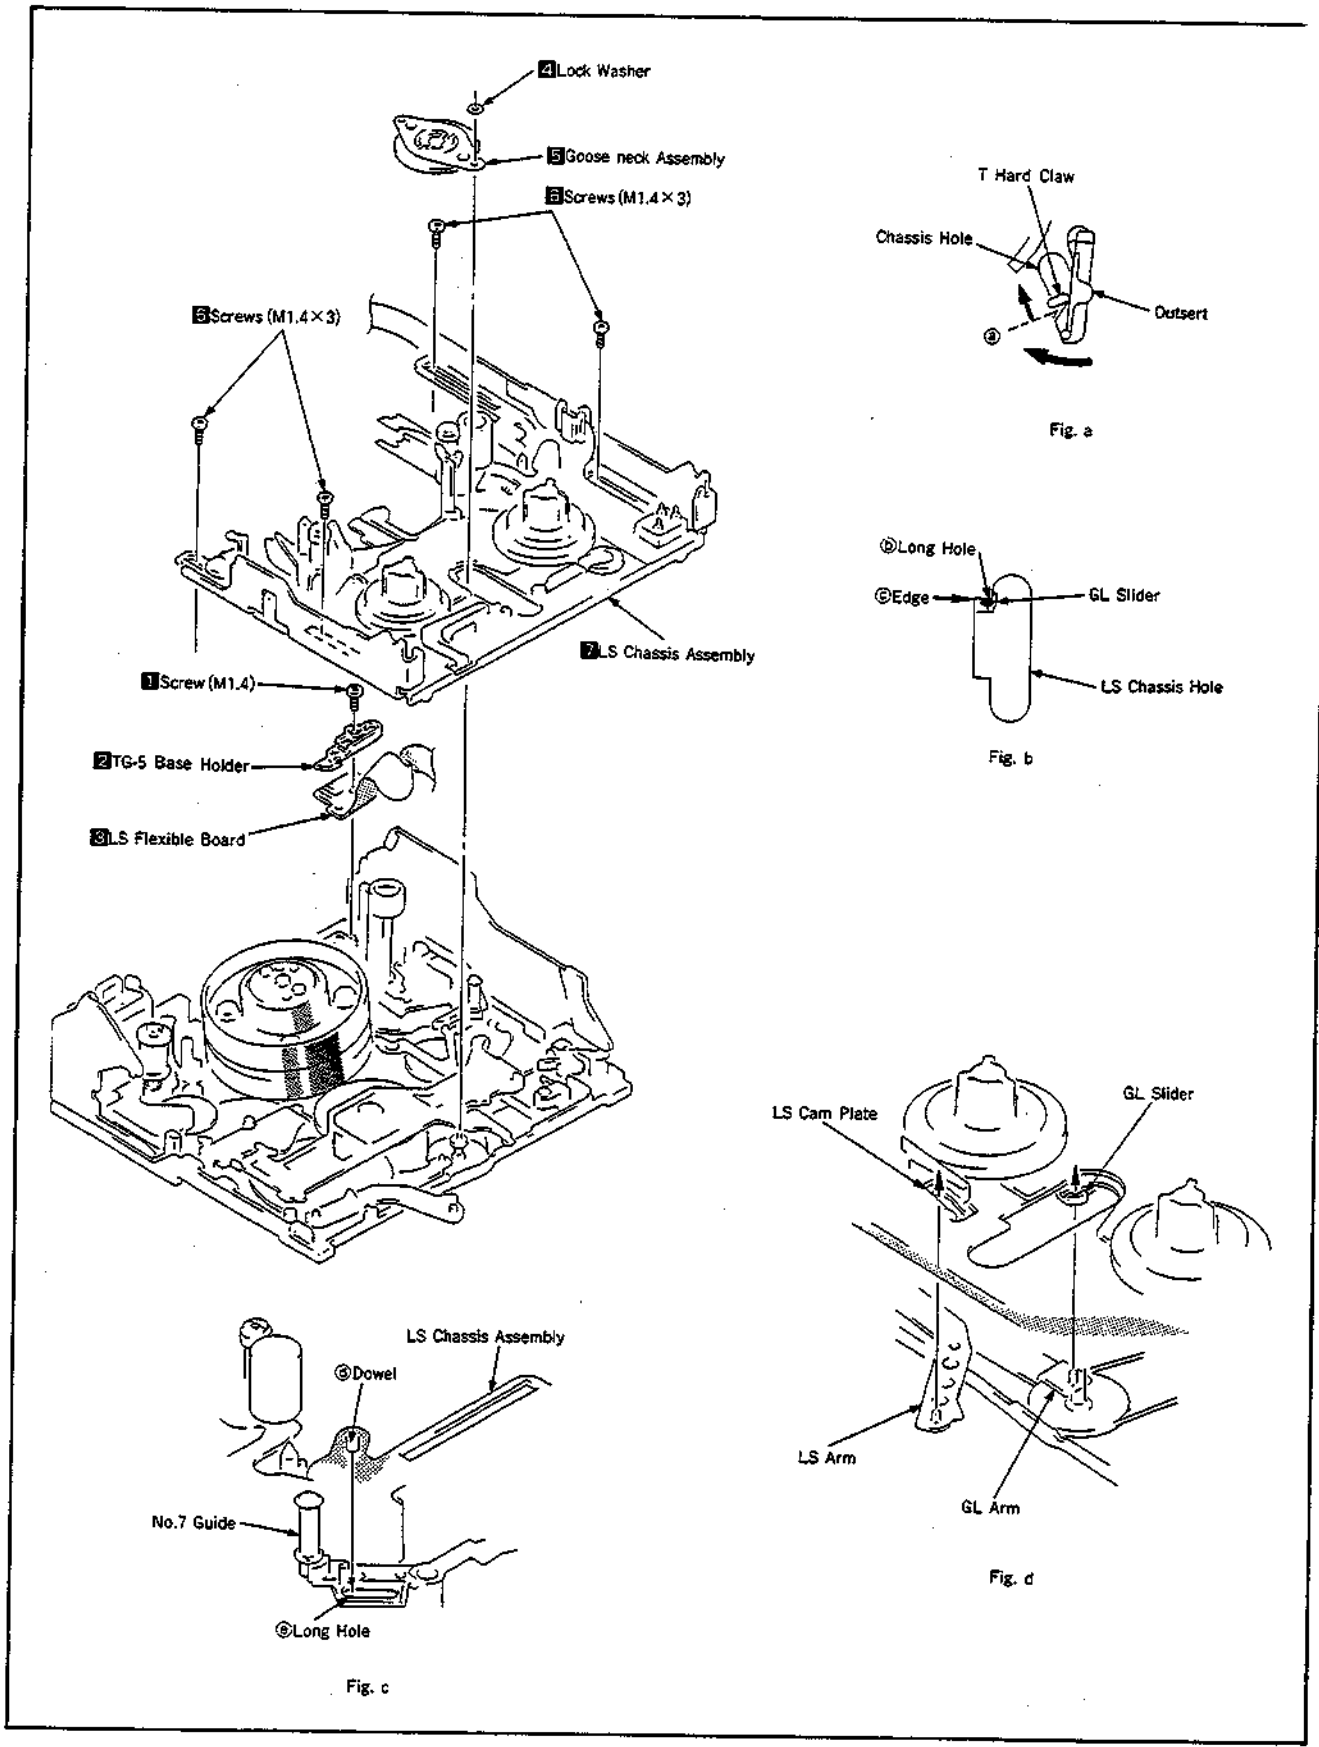

Fig. 14
3. LS CHASSIS ASSEMBLY (Fig. 14)